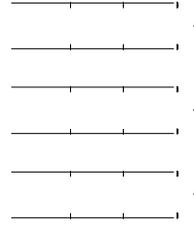

Figure 1
4. Tie the tubing to the wire mesh or rebar using Wirsbo wire ties every four feet along straight runs. At the 180° turns, tie the tubing at the top of the arc and once on each side, 12" from the top of the arc (see Figure 1). This will prevent the tubing from dislodging or floating into the pour.